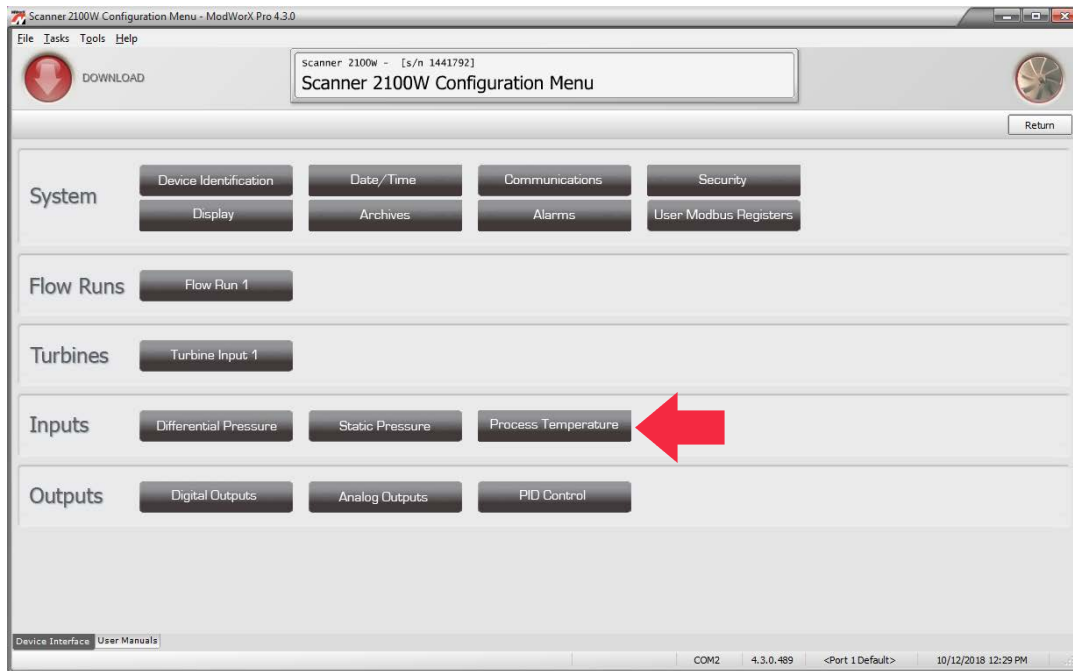

Figure 6.2
- Then, click the appropriate input in the Inputs section of the Configuration Menu screen (Figure 6.2).